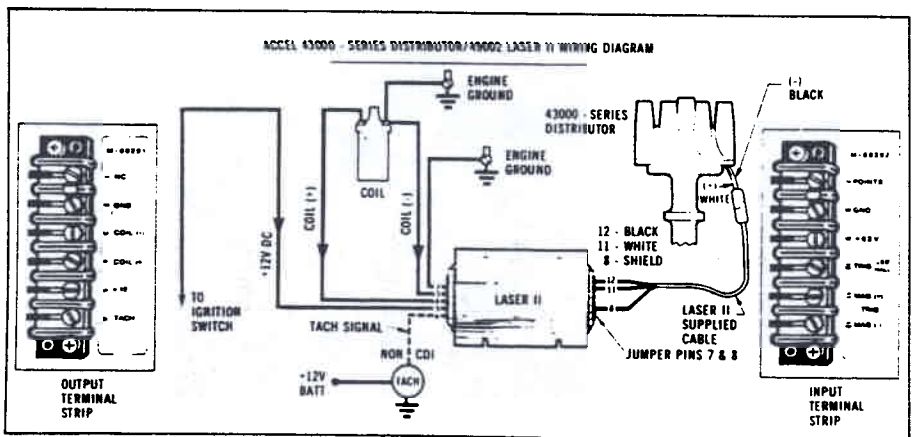

Fig. 2
6. Follow ignition module manufacturer's wiring instructions for proper connection. For Laser II wiring diagram, see Fig. 2. If the distributor leads are reversed, the timing will be significantly advanced (approximately 20°), causing hard starting and poor engine operation. Reverse the pickup leads to correct.